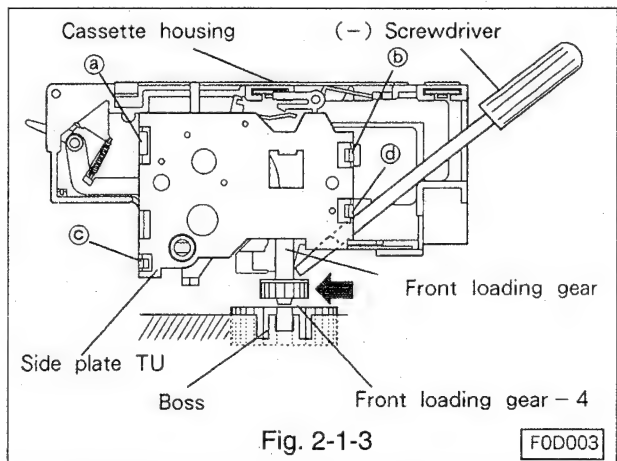

Fig. 2-1-3
- In step A above, if the front loading gear of the cassette housing does NOT engage the boss on the main plate, carefully push the gear toward the front of the VCR using a small-diameter screwdriver, as illustrated in Fig. 2-1-3. If the gear still will not engage, rotate the Front Loading Gear a few degrees from below the deck until the gear engages the boss correctly.
2-2-1 Removal(Refer to Fig. 2-1-3~2-2.)
- Unfasten four snaps(a~d)as shown in Fig. 2-1-3, and remove the side plate TU.
2-2-2 Installation(Refer to Fig. 2-1-3~2-2.)
- Install the side plate TU to the cassette housing, and secure it with four snaps(a~d)as shown in Fig. 2-1-3.